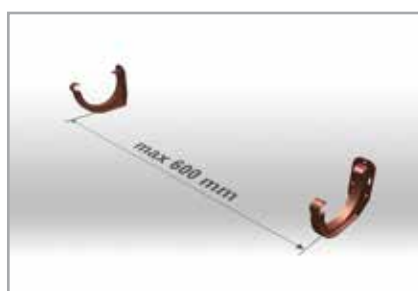

Fig. 2
- 1.5 Recommended hook spacing is 60 cm **(Fig. 2)**